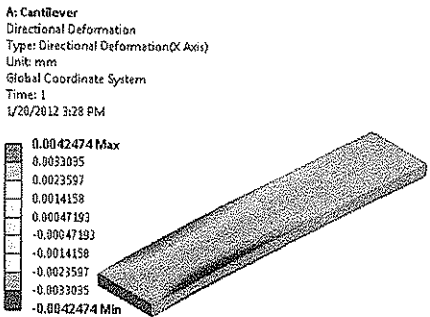

Figure 9-22 Directional Deformation with respect to X axis
8. Next, choose the **Solve** tool from the **Standard** toolbar to view the Directional Deformation with respect to the X axis, refer to Figure 9-22.